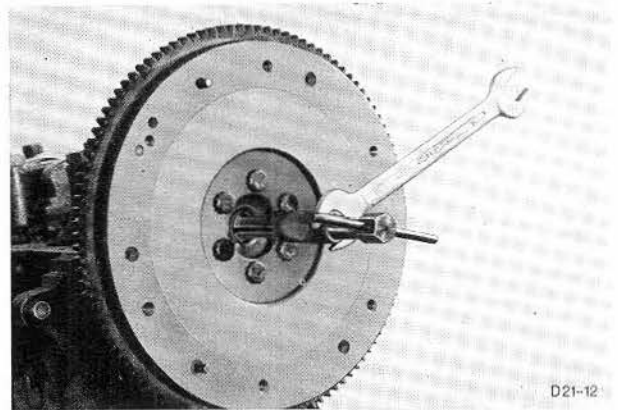

Fig. 30. Withdraw input shaft spigot bearing.
25. Remove input shaft spigot bearing from crankshaft using Special Tool 21-036, Fig. 30.